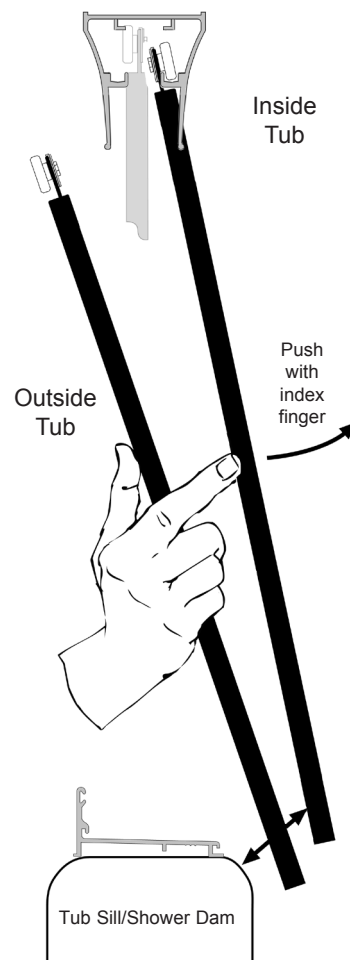

Figure 4
- C. Hold the Outside Door Panel (#4) so that the rollers are facing *towards* you. Standing outside of and facing the shower enclosure, use the index fingers of both hands to carefully push the Inside Door Panel (#5) back and out of the way as you lift the Outside Door Panel (#4) up and over the Bottom Track/Curb (#2) and then insert the Top Rail (#3) with Adjustable Ball Bearing Wheel Assemblies (#3A) up and into the Header (#1) (See Figure 4). **DO NOT let the two Panels strike one another.** Set the rollers into the front track of the Header (#1). If someone is assisting you, have him/her hold the Inside Door Panel (#5) back, out of your way for this step.